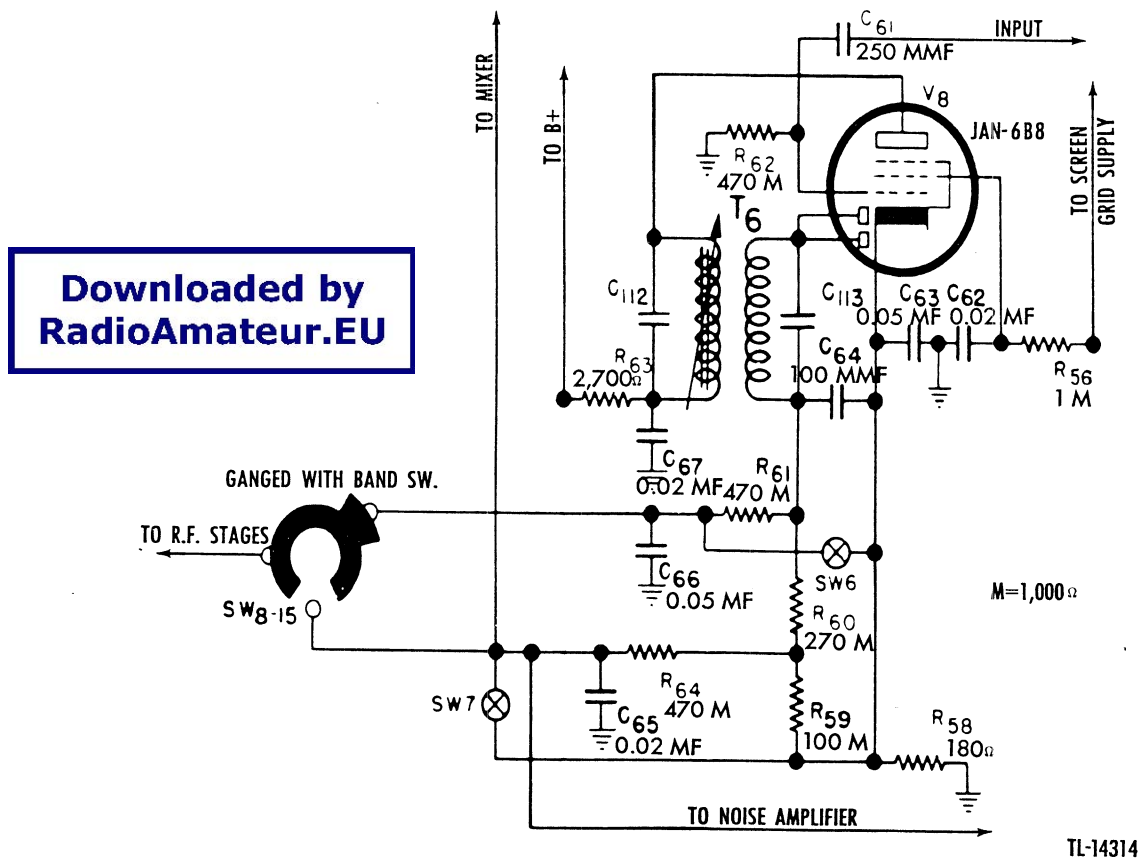

Figure 14. Automatic-volume-control amplifier, schematic.
b. The second noise-limiting circuit receives a signal from the plate of tube V3 through capacitor C60. The signal is amplified by the noise amplifier Tube JAN-6AB7 (V9) and applied to one section of tube V10 functioning as noise rectifier. When the noise impulses exceed the potential developed across cathode resistor R54 by the flow of bleeder current from the screen voltage supply line, the noise rectifier conducts. The flow of rectified current through resistor R49 places a negative potential on the number 3 grid of the i-f amplifier tube V5. Grid bias for tube V9 is developed across resistor R54 and a-n-l control R53, when switch SW5 is on. Capacitor C58 filters this bias. Bias voltage for the grid of tube V9 is also supplied by the a-v-c amplifier tube V8 (fig. 14) through decoupling resistors R55 and R57 and is filtered by capacitor C59 (fig. 27). Resistor R55 is the grid return load resistor. Screen-grid voltage is obtained through dropping resistor R51 bypassed by capacitor C57. A broadly tuned i-f transformer T5 is used in the plate circuit of tube V9, the secondary feeding into the section of tube V10 which functions as a noise rectifier. Resistor R69 across capacitor C110 broadens the frequency response of this circuit. A wave trap consisting of choke CH3 and
18. A-V-C AMPLIFIER (figs. 14 and 15).